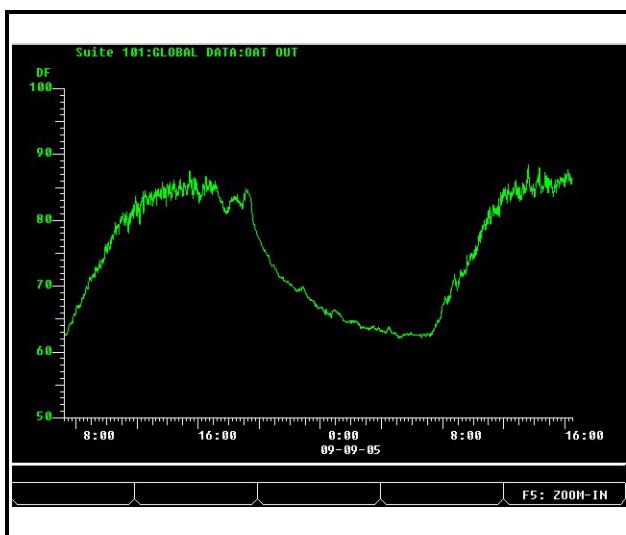

Figure 12-27 - Sample Graph View
- F3** GRAPH - Displays logged data in a graph format (see **Sample Graph View Figure 12-27**).